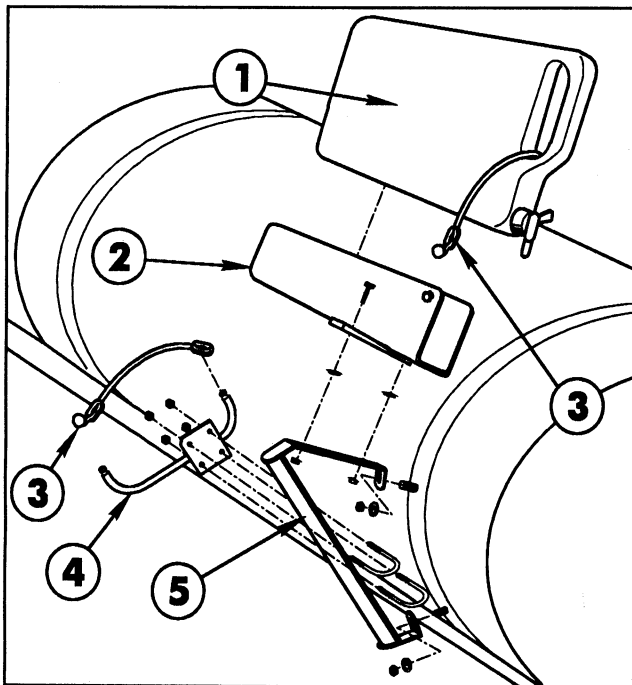

FIG. 8
1. Mount right Hold-In Brace assembly to the two (2) 5/16" carriage bolts in the front Tank Band using two (2) 5/16" flat washers and hex nuts. Tighten securely. See FIG. 8.
2. Attach right Boom Hold-In assembly to Hold-In Brace assembly using two (2) 1/4" U-bolts and four (4) 1/4" lock nuts. Attach Rubber Hold-Down to Hold-In Brace assembly. Repeat steps 1 and 2 for left side.
3. Mount Wash Tank Bracket (open end forward) to right-hand Hold-In Brace assembly using two (2) 5/16" x 1" hex hd. cap screws, flat washers, and hex nuts. Place Clean Water Wash Tank into Wash Tank Bracket and secure with Rubber Hold-Down, as shown in FIG. 8.